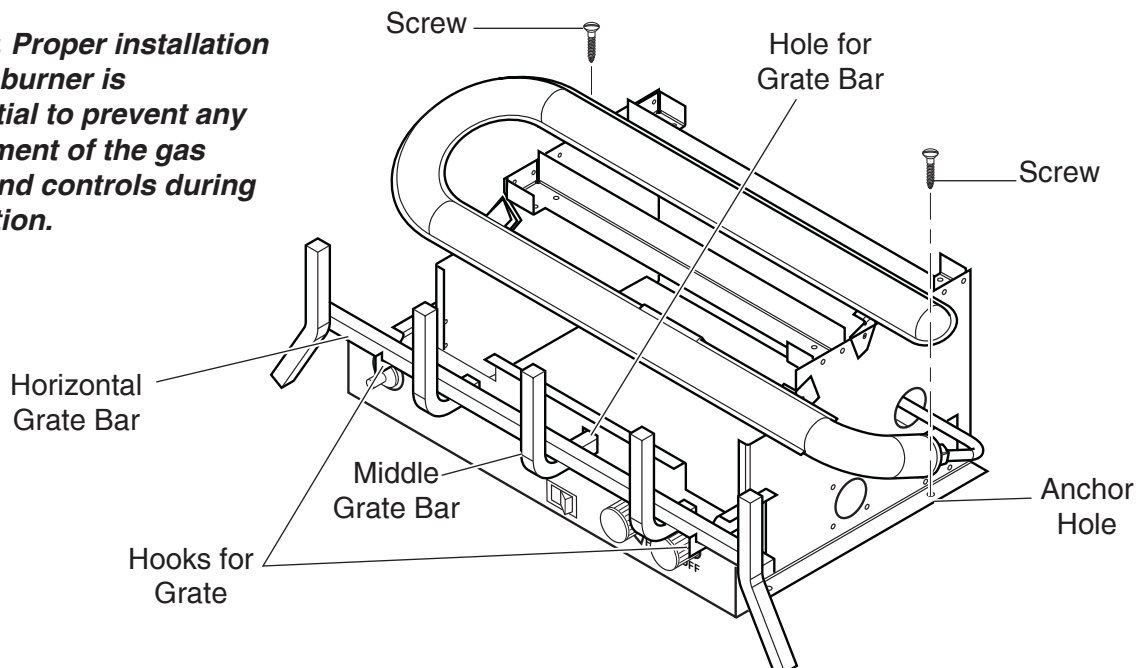

Figure 12 - Installing Grate and Securing Heater to Floor of Fireplace/Firebox
2. **Installing Grate:** Insert longest middle grate bar in one of the two square holes in control panel. See Figure 12. Be sure grate is centered. Sit horizontal bar inside two hooks on front of control panel. See Figure 12. Make certain front feet of grate are located inside front edge of fireplace or firebox.
3. Anchor holes are located on the flange of the unit. See Figure 12. After centering the burner correctly, mark the hole positions on the fireplace/firebox floor. Drill two (2) $\frac{5}{32}$ " diameter holes approximately $1\frac{1}{2}$ " deep.
4. Anchor the unit to the fireplace/firebox floor using the screws provided. See Figure 12.